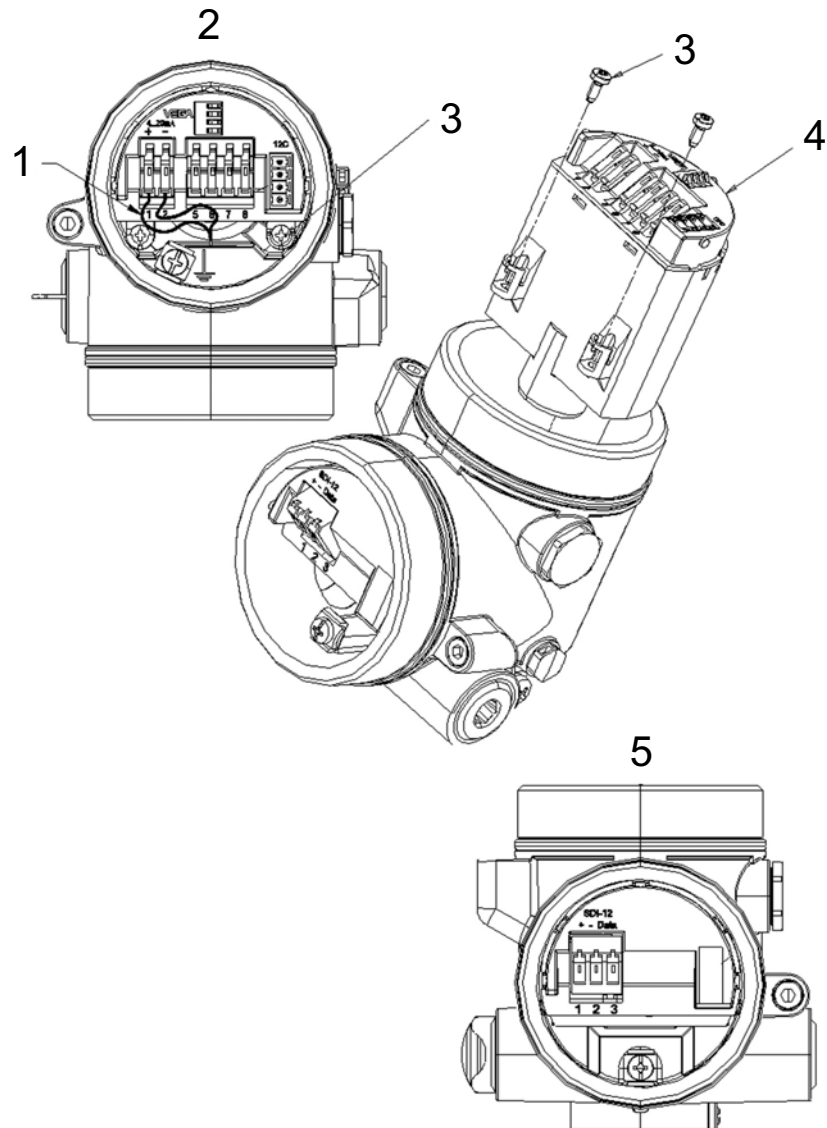

Figure 8-1. Changing the electronics (see Table 8-5 for label descriptions)
The electronics module is replaced by doing the following steps (see Figure 8-1 and Table 8-5):
1. Unscrew the housing cap (cap is not shown in Figure 8-1).
3. Loosen the two screws securing the electronics to the housing (3 in Figure 8-1). These screws are captive screws and will remain nested with the electronics.
4. Gently remove the electronics from the housing (4 in Figure 8-1).
6. Tighten the two screws to secure the electronics to the housing (3 in Figure 8-1).